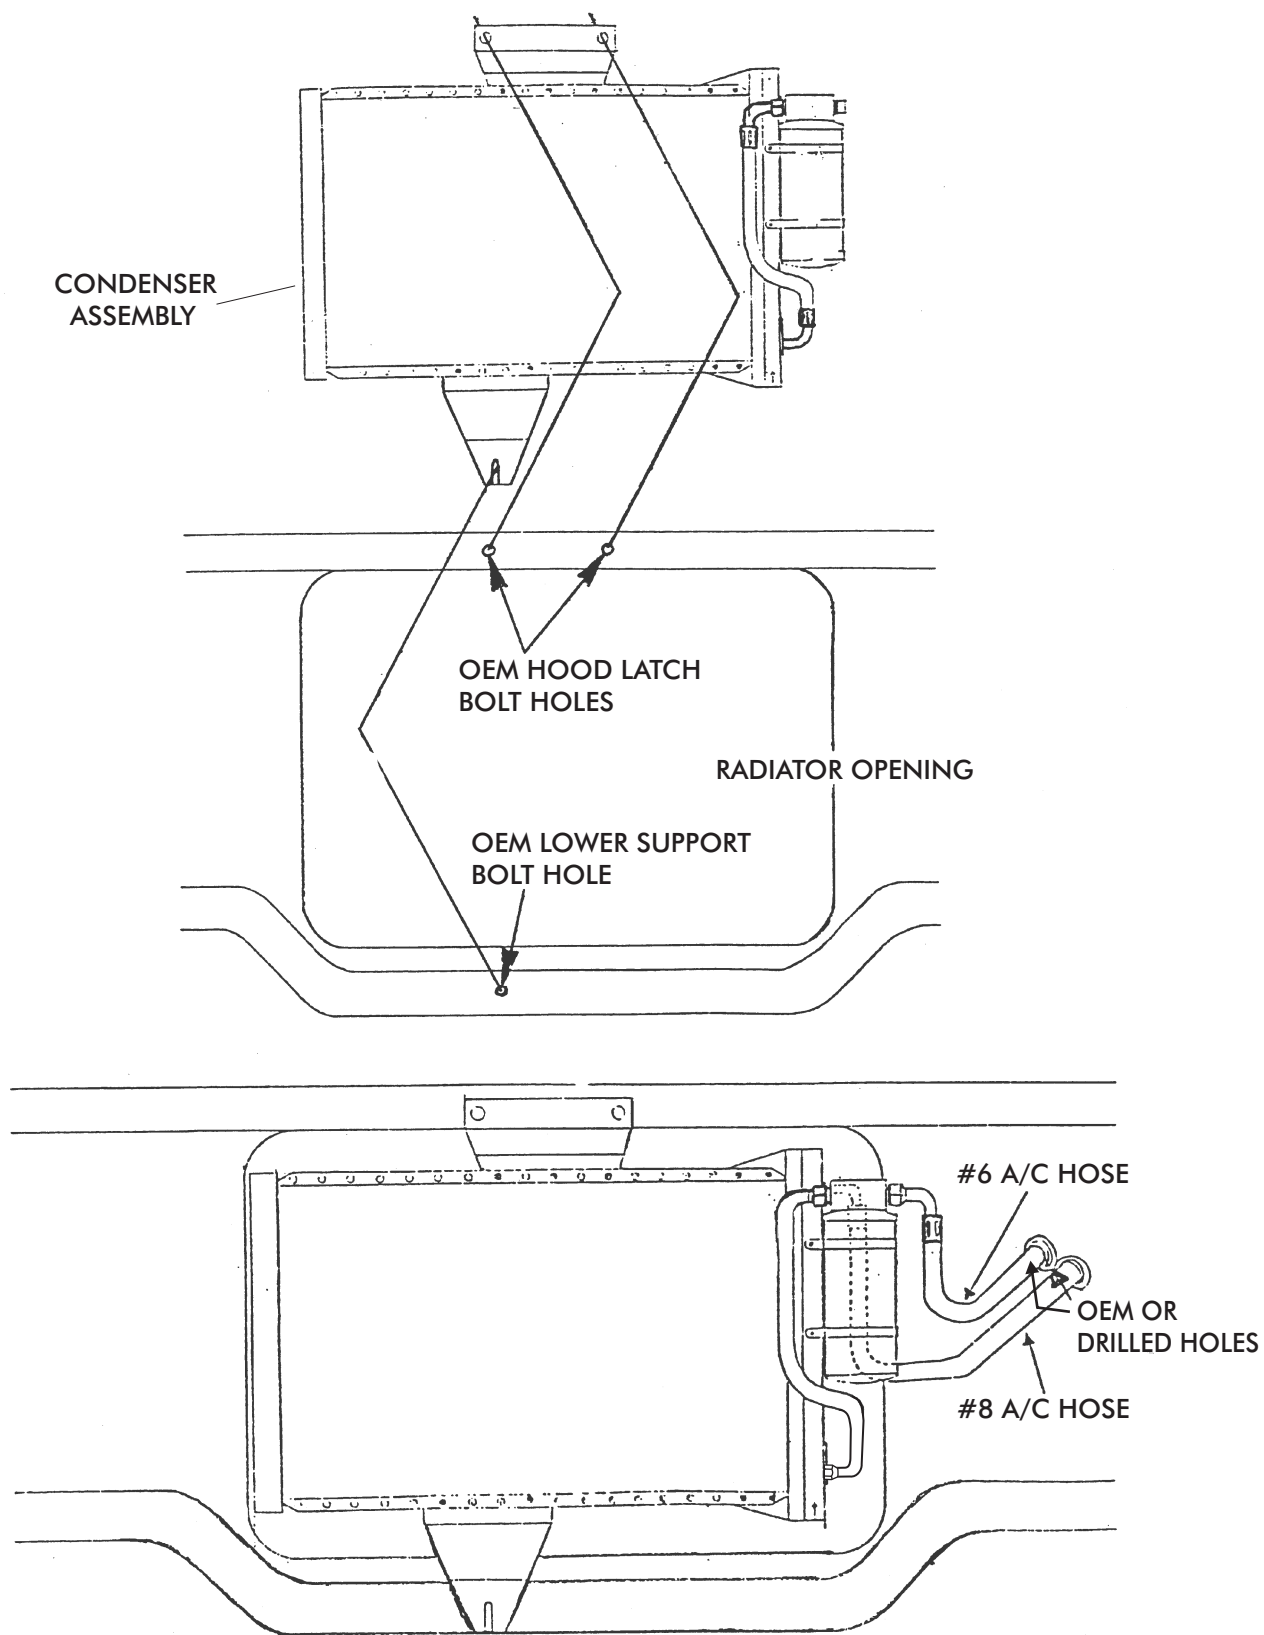

FIGURE 12
3. THE CONDENSER ASSEMBLY MOUNTS UNDER THE HOOD LATCH AND LOWER HOOD LATCH SUPPORT BRACE MOUNTING POINT THAT IS BELOW THE RADIATOR (SEE FIGURE 12, PAGE 13).